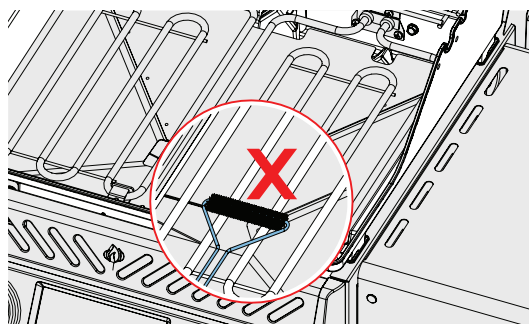

Fig. 5
**IMPORTANT!** Do not use any type of brush to clean the electric burners. The bristles could damage the electric burners. Refer to **Clean** mode to burn off any debris on the electric burners. (Fig. 5)